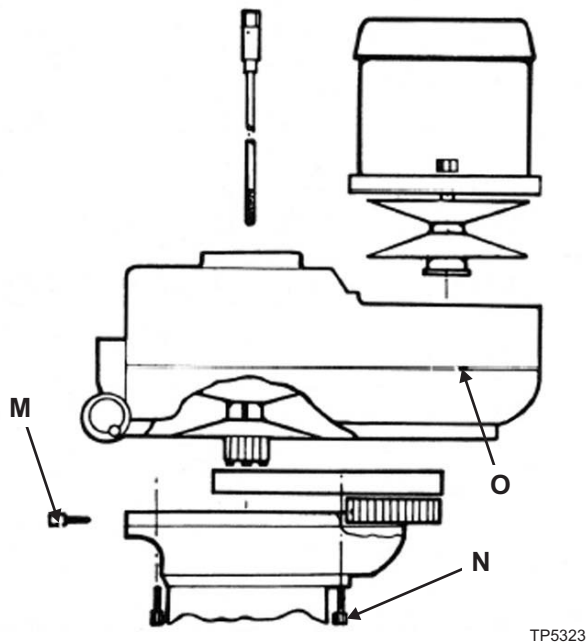

Figure 4.4 - Timing Belt Replacement
3. Remove two lower cap screws "M", Figure 4.4, from the speed changer housing.